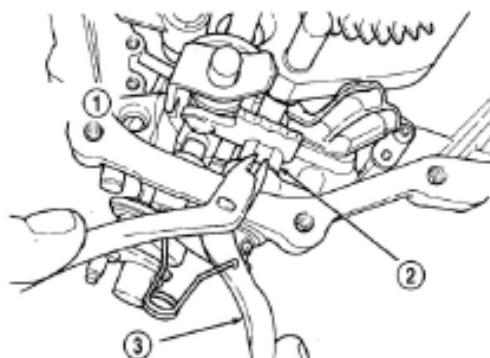

Figure 3-46 Disassembly of shift shaft sleeve gasket
(13) Pick out the shift shaft sleeve gasket with circlip pliers (Figure 3-46).